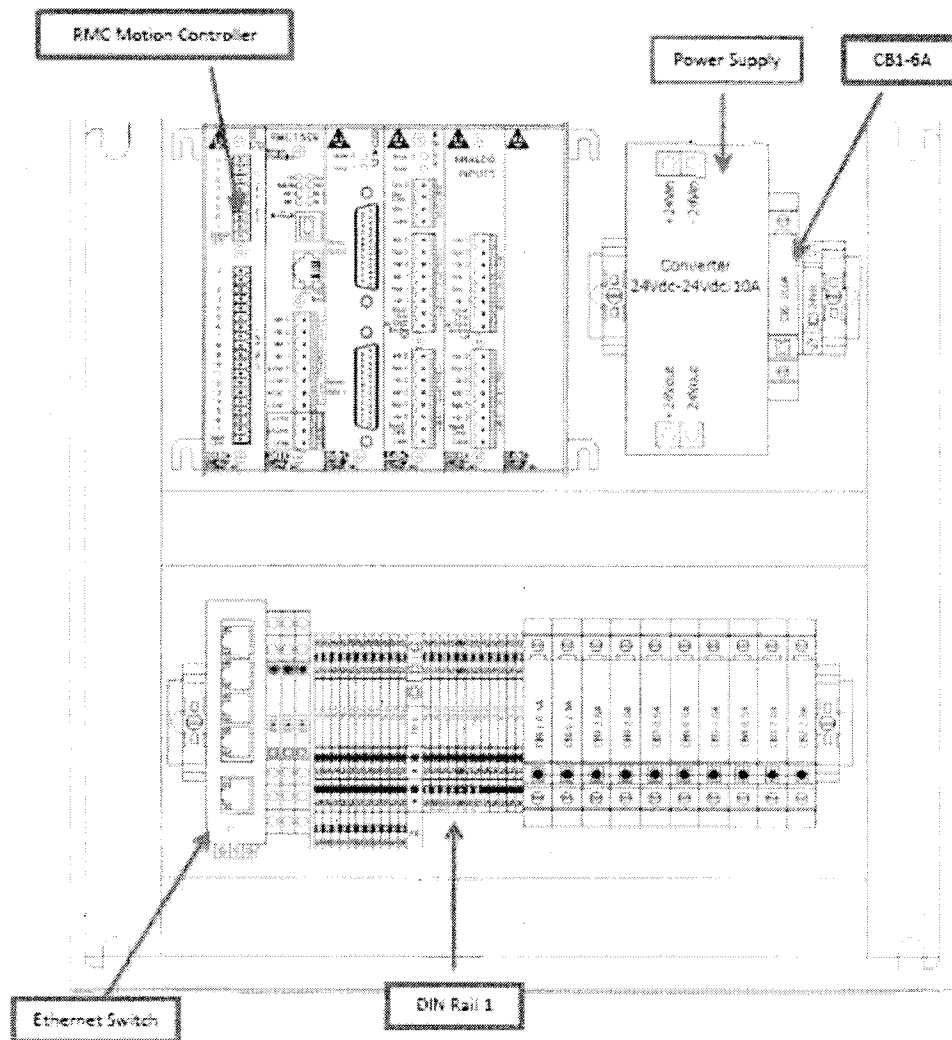

Figure 18
- the detailed description makes reference to Fig. 18 only in par. [0757], and without any reference to the elements in the figure;